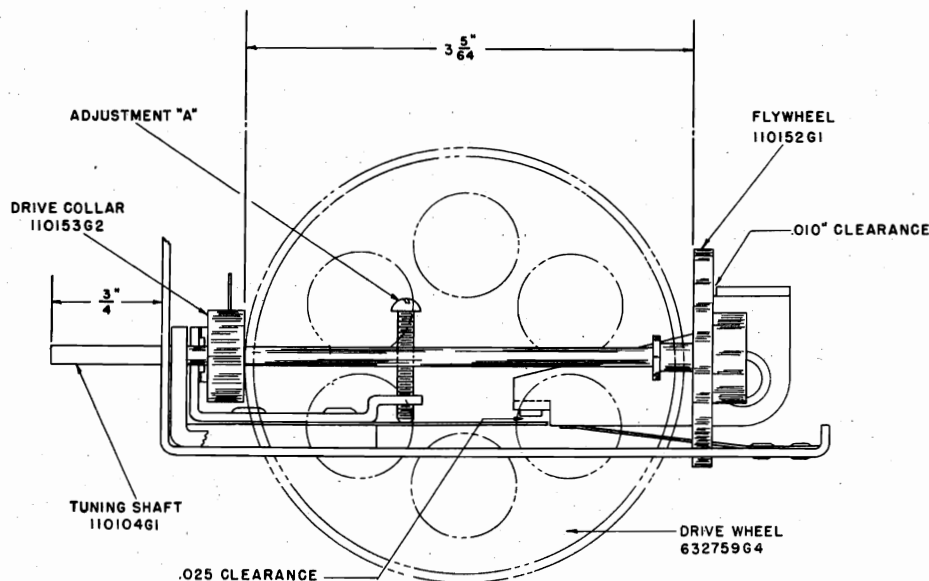
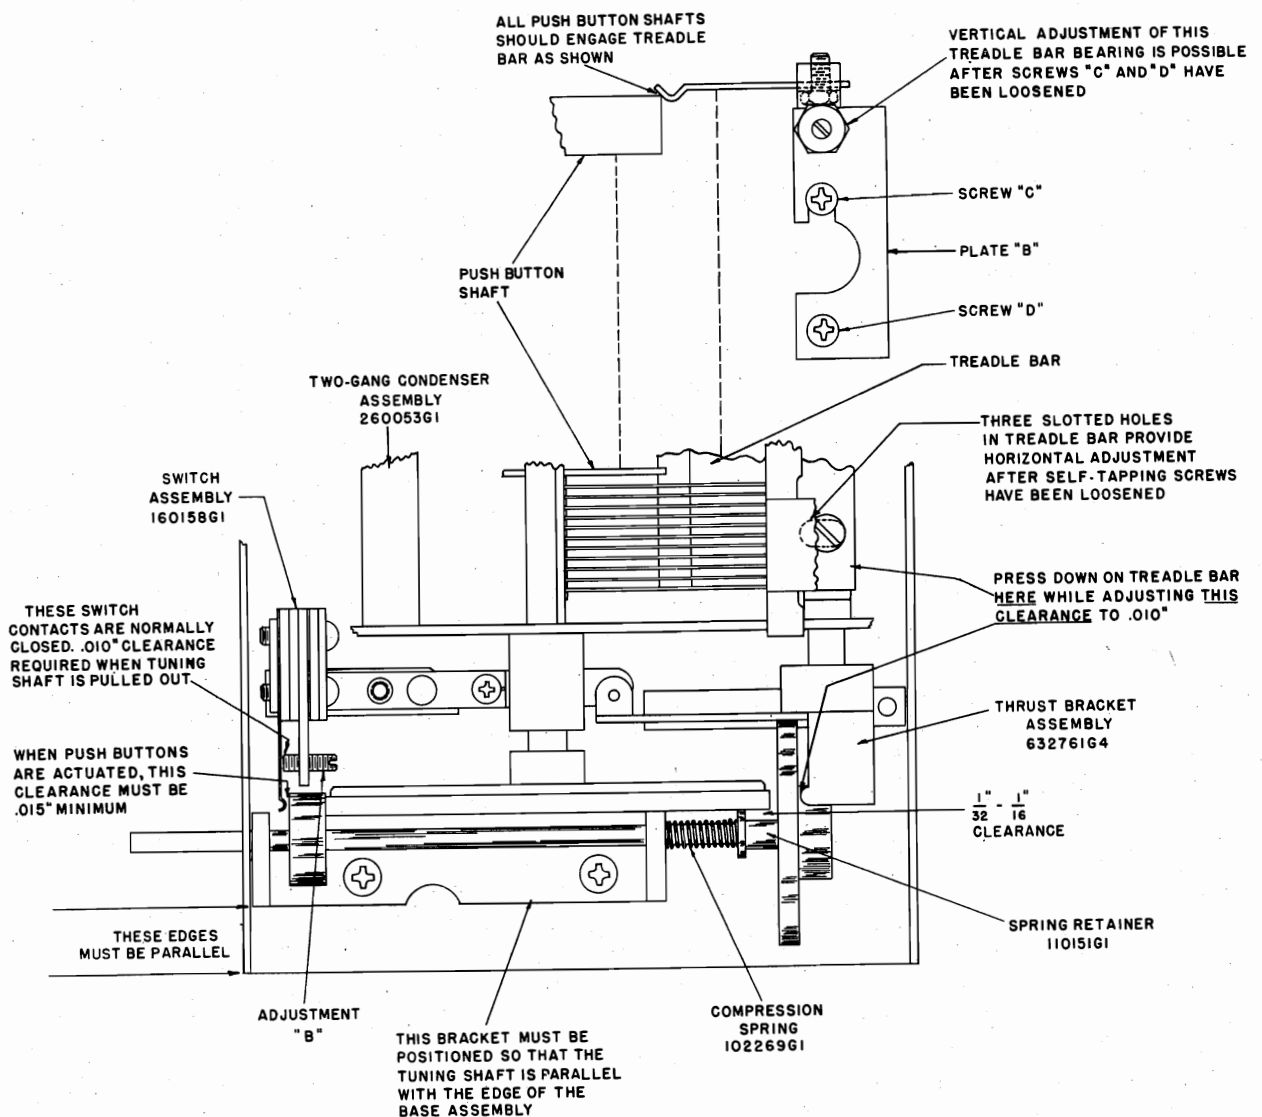

FIGURE 2
FIGURE 3
Whenever any of the mechanical parts in the condenser gang drive assembly require replacement due to rough handling or for any other reason, it is extremely important that clearances and adjustments shown on Figures 2 and 3 are affected; otherwise the tuning mechanism will be sluggish or it may slip during operation.
1. Assemble the Tuning Shaft, Drive Collar, Compression Spring, Spring Retainer and Flywheel in the manner shown on Figure 3. The Tuning Shaft must extend  $\frac{3}{4}$ " from the front of the assembly and that the spacing between the rear of the Drive Collar and the front of the Flywheel must be  $3\frac{5}{64}$ " as specified on Figure 2. Any excess length in the Tuning Shaft may extend beyond the rear of the Flywheel.
2. The distance between the rubber-tired Drive Wheel and the smaller diameter section of the Spring Retainer must be  $\frac{1}{32}$ " to  $\frac{1}{16}$ ". This adjustment is effected by loosening the two No. 6 Allen set screws in the Drive Wheel hub and sliding the wheel on its shaft until the required clearance is obtained. When the adjustment is completed, tighten the two screws in the hub of the Drive Wheel. See Figure 3.
3. While pressing down on the Treadle Bar at the location shown on Figure 3, adjust the Thrust Bracket until the clearance between the rear of the Flywheel and the projection on the Thrust Bracket is .010" as shown on the diagram. To make this adjustment, loosen the two No. 6 Allen set screws (use No. 6 Allen Wrench—Magna vox Part No. 800044G2) in the hub of Thrust Bracket and rotate the bracket until the specified clearance is obtained when the push buttons are NOT actuated. Tighten the two screws securely when the adjustment is completed. Press each push button and check that the Drive Collar is pushed away from the rubber-tired Drive Wheel.
4. Next, adjust the clearance in the muting switch contacts by turning the Phillips-head screw designated Adjustment "A" on Figure 2, until the specified clearance of .025" is obtained (when the push but-
5. While pressing any one of the push buttons in as far as possible, turn the screw designated Adjustment "B" (Figure 3) until a minimum clearance of .015" is obtained between the front surface of the Drive Collar and the switch spring directly in front of it. This setting should also cause a minimum clearance of .010" between the switch contacts actuated
This can usually be accomplished by loosening the two screws designated "C" and "D" on Figure 3, and moving plate "B" in the direction required to correct this condition.